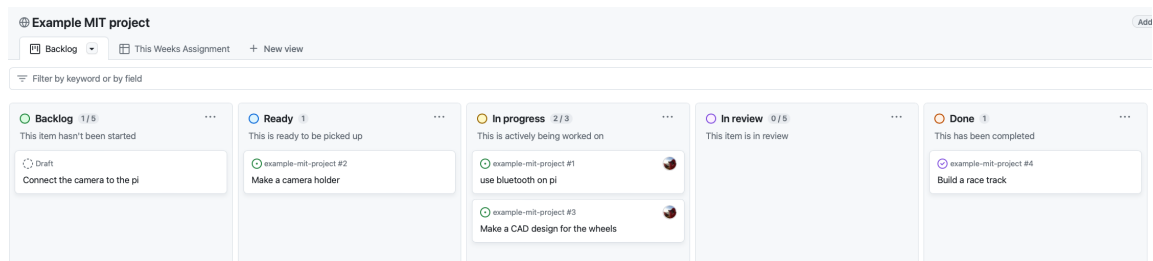

Figure 9.1: The github project overview for an example project.
*Progress, Review and Done* (Fig. 9.1). These virtual postits represent ToDos (a task) that are in different states as you achieve your projects goals. At the same time, they serve as the grade-relevant documentation of your project - a ToDo can be associated with a github issue, it can keep track of related commits, have screenshots, can be assigned to team members and each team member or TA can leave comments and ideas (see Documentation below). The weekly sprint meetings serve to collectively update these ToDos, to track the progress made during the last week, identify blockers and possible tasks and decide on the next steps.